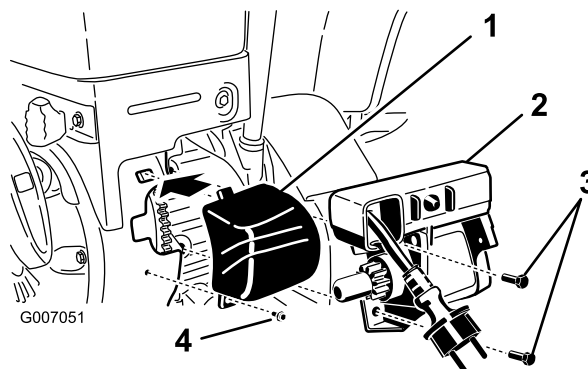

Figure 2
- Install the electric starter securely as shown (Figure 2) with 2 torx head bolts from the loose parts bag.